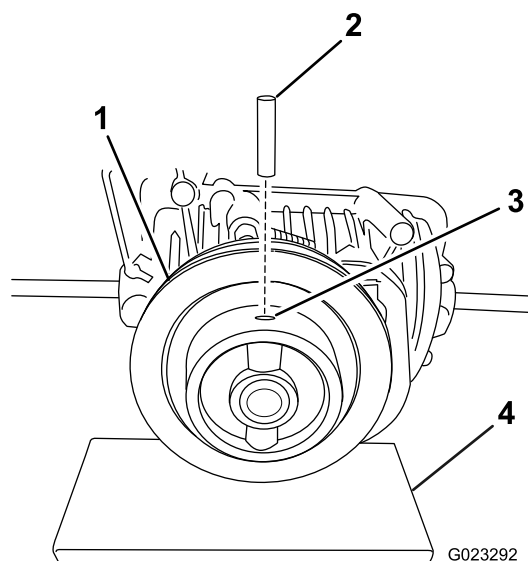

Figure 1
4. Apply Loctite® 454 thread-locking compound (or equivalent) into one of the hole ends in the pulley (Figure 1).
Note: Support the pulley as you insert the pin to prevent putting excessive stress on the input shaft (Figure 1).